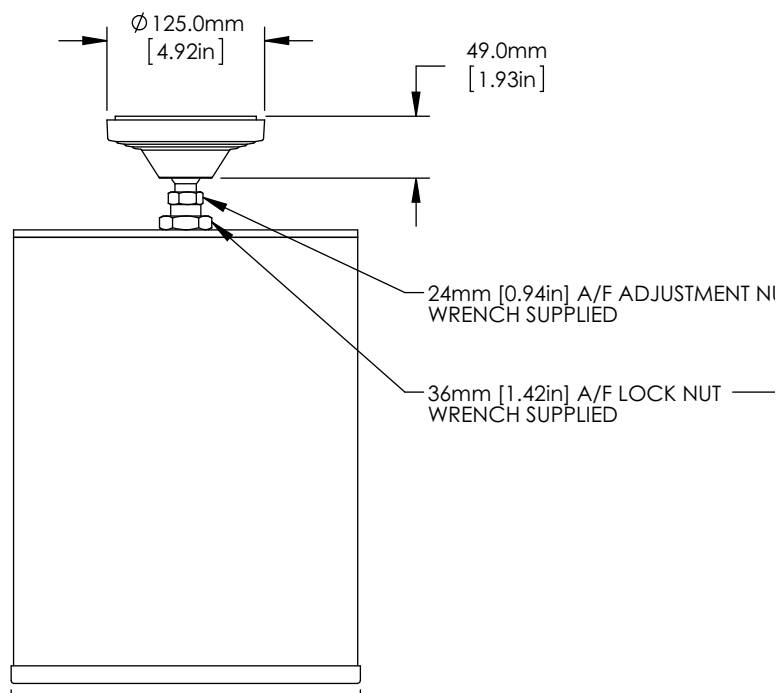

Fig. 2.4 Levelling the system
- 2) Repeat item 1) for the support diagonally opposite.
- 3) Repeat items (1) and (2) for the remaining two supports.
- 4) Using a bubble level or other suitable device, check that the work surface is level. Repeat items (1) to (3) as necessary. – see Fig. 2.4.